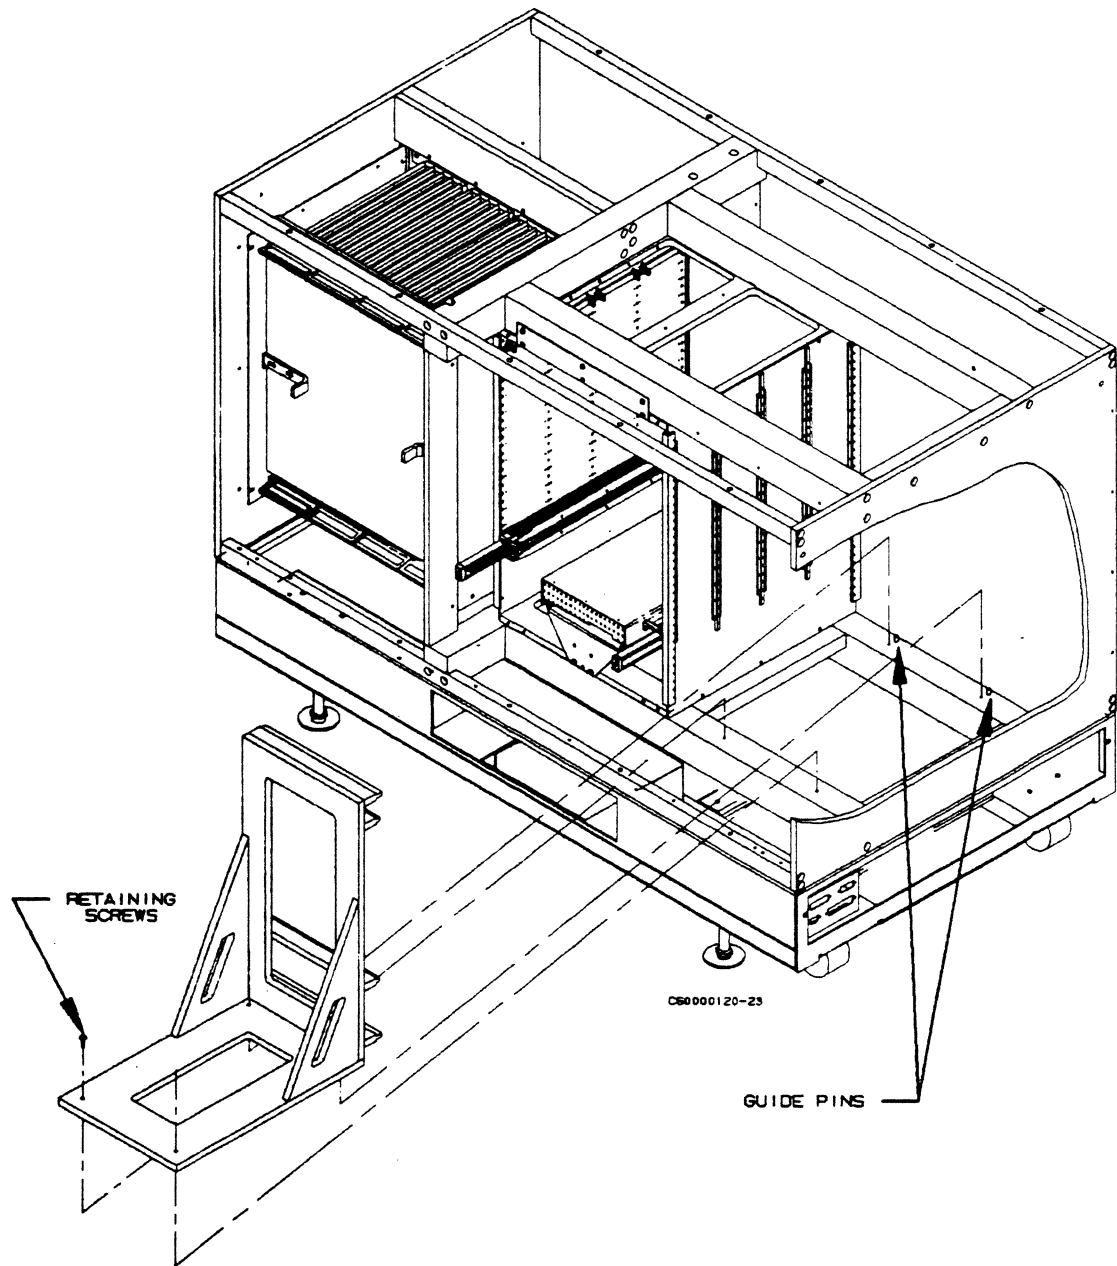

Figure 3-14. Bus Bar Alignment Fixture
- ___ 3. Pull back on bus bars while pushing on alignment fixture until fixture seats on guide pins in base (figure 3-14).